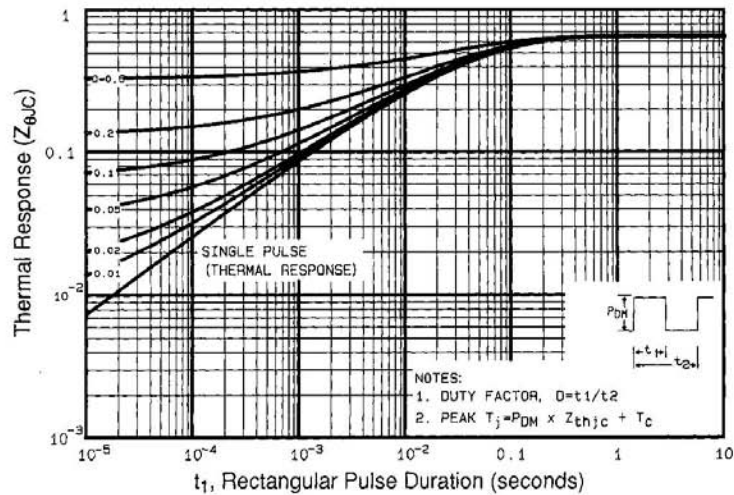

Fig 11. Maximum Effective Transient Thermal Impedance, Junction-to-Case
① Repetitive rating; pulse width limited by max. junction temperature (See Figure 11)
② $V_{DD}=50V$, starting $T_J=25^\circ\text{C}$, $L=23mH$